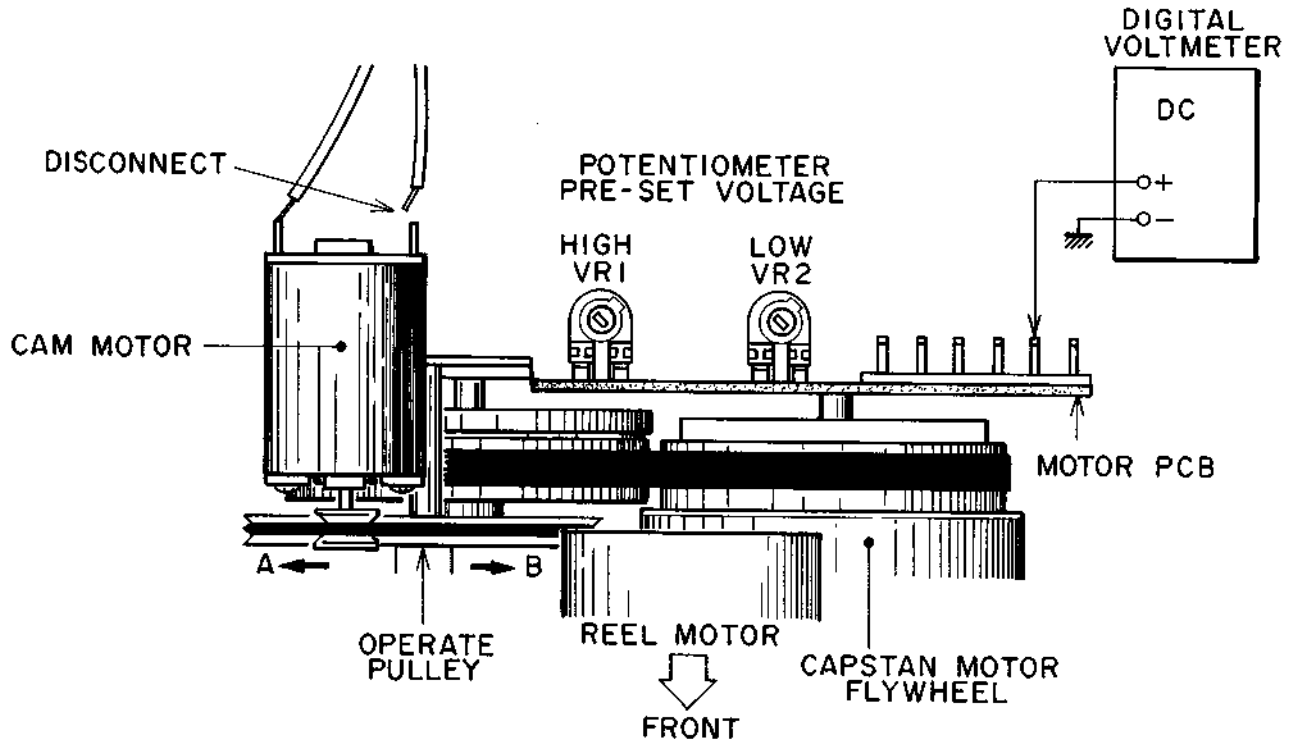

Fig. 7-1
- Connect the digital voltmeter as shown in Fig. 7-1.
- With power ON, adjust VR2 so that the voltage reading will be 0.78V (DC).